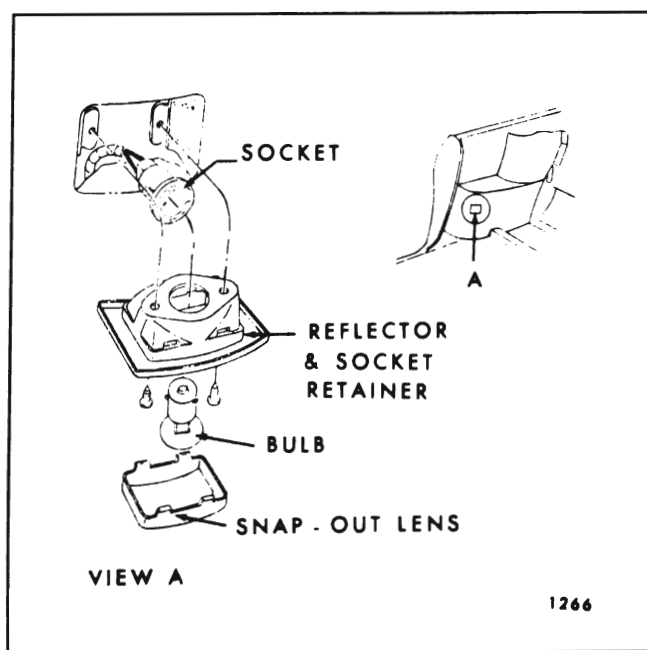

Fig. 14-23—Rear Quarter Arm Rest Courtesy Lamp
- f. On styles equipped with rear quarter lamp assemblies, disconnect lamp as shown in Fig. 14-23.